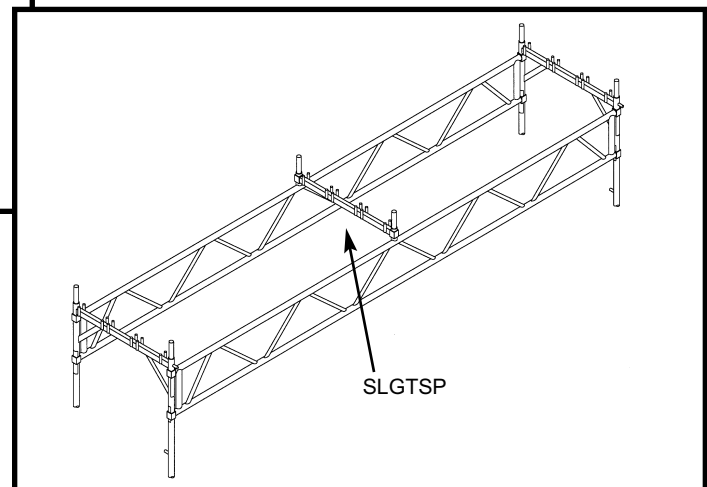

Figure 16: Girt Installation
2.6.2.3 Installing the Girts: Erect the scaffold run or towers one (1) level below the desired Girt height. Omit the frames in the proposed Girt area. Install two SL frames and rails on both sides of the opening to which the Girt is to be placed, but do not install platform planks above or vertical diagonal braces at this time. Remove the "T" bolt from each Girt clamp. Lift and position the Girt at the desired location (this may require moving the scaffold frames to properly seat the Girt clamps), insert the "T" bolts in the Girt end clamps and fasten the Girt at one end. Girts are heavy (as much as 180 pounds) therefore it will require at least two, possibly three erectors to lift and position each Girt. Level the Girt and tighten the remaining clamps on the other end. Repeat this procedure to install the second Girt. Check level between the two girts. (See Fig. 16)